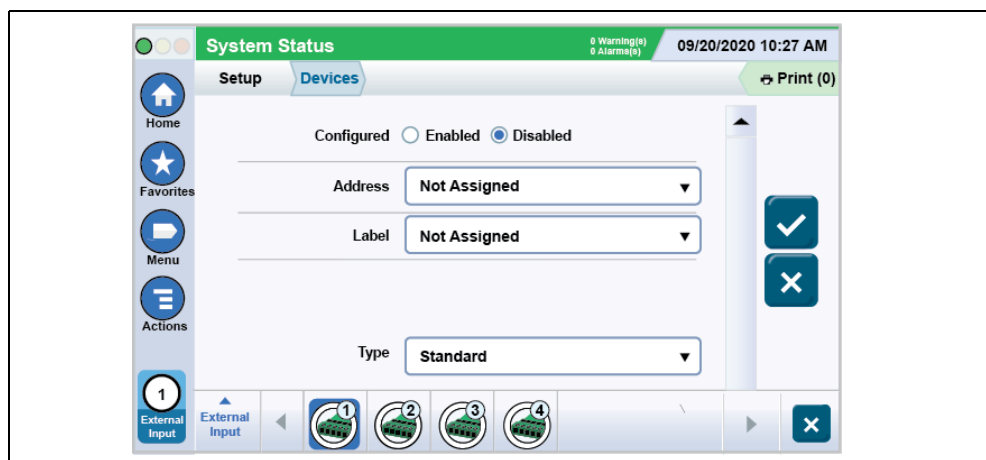

Figure 31. TLS-450PLUS External Input Setup Screen For FCC Switch Contact
1. Go to the **Menu>Setup>Devices** screen, open the Setup Devices Index and touch the **External Input** button to open the External Input setup screen (Figure 31).
1. On the External Input screen (Figure 31), select the External Input you want to configure for the diesel pump switch hook.